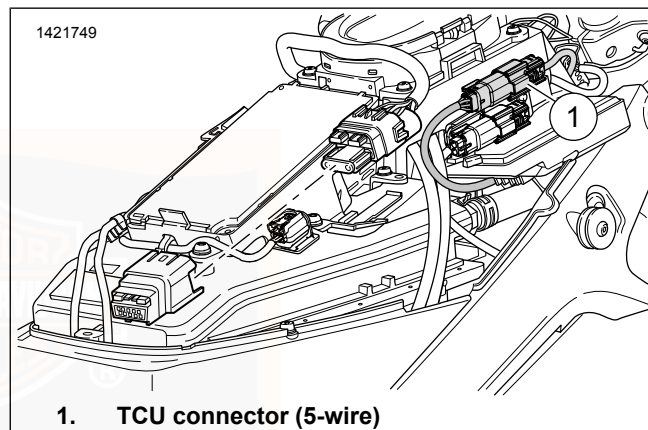

Figure 26. TCU connector
4. See Figure 26. Disconnect TCU connector (5-wire).